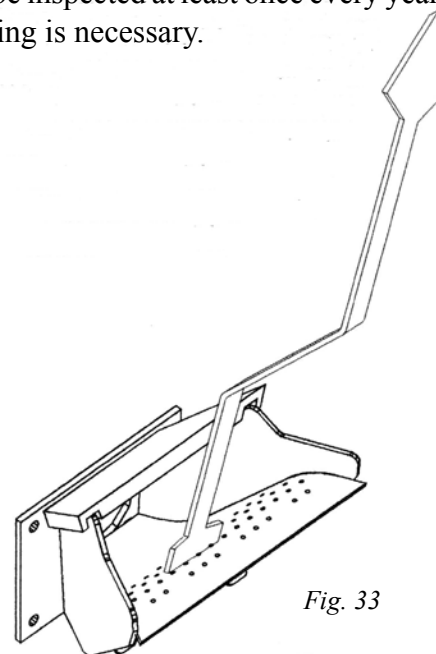

Fig. 33
10. Scrape burnpot with flat end of scraper provided with the stove. See Fig. 33.